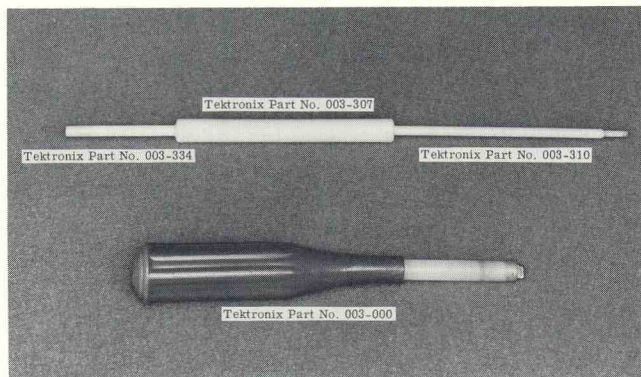

Fig. 5-2. Low capacitance, insulated alignment tools used to calibrate the Type CA.
12. Miscellaneous alignment tools. See Fig. 5-2.